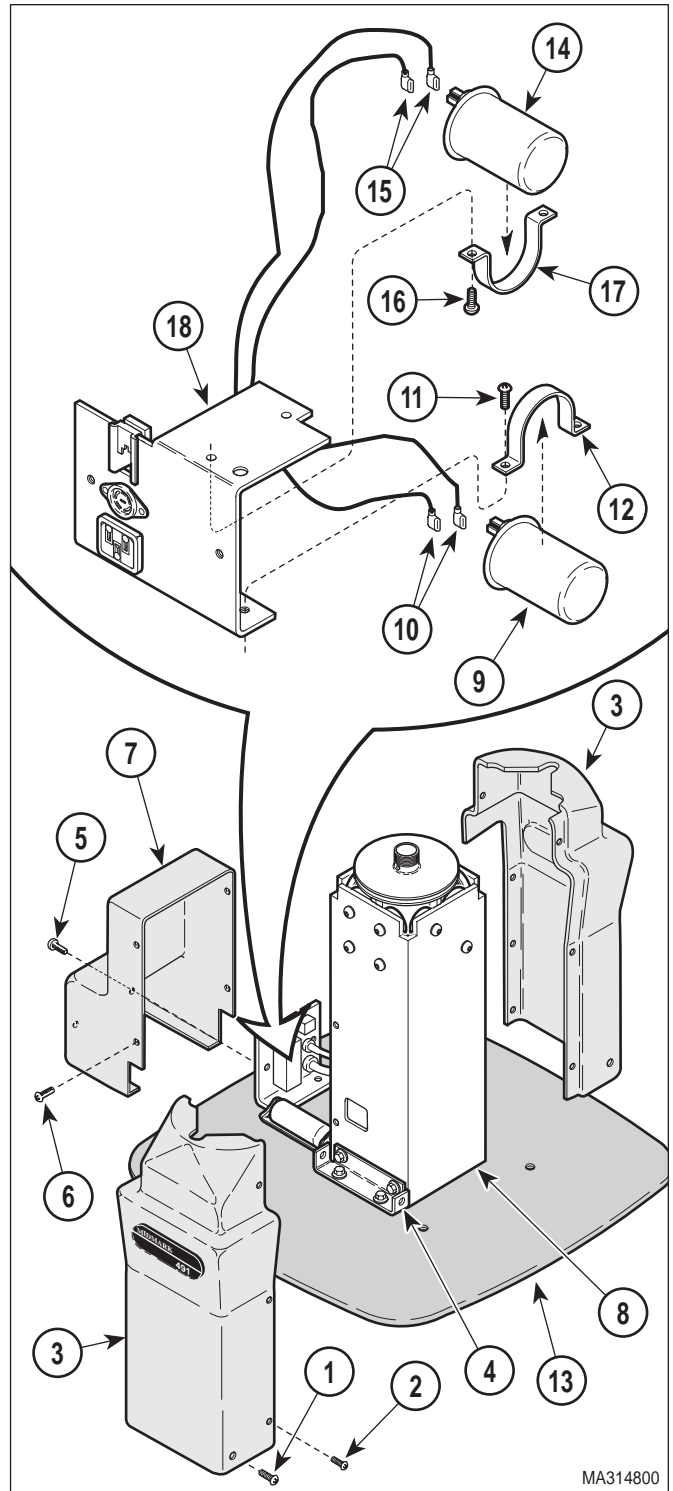

Figure 4-19. Typical Capacitor Removal / Installation (Export Units Only)
- (1) If possible, raise BASE UP function all the way up.
- (2) Unplug chair power cord from wall outlet.
- (3) Remove four screws (1, Figure 4-19), four screws (2), and R.H. and L.H. shrouds (3) from base mounts (4).